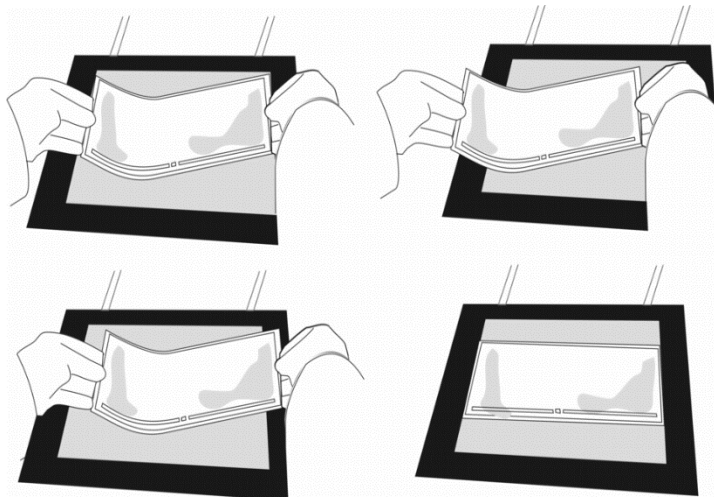

Fig. 5
8. Grip the gel (surface up) at the two lateral edges at the protruding film, bend it like an „U“ and slide the film-backing left and right on the cooling plate to distribute the cool contact fluid evenly (Fig. 5)